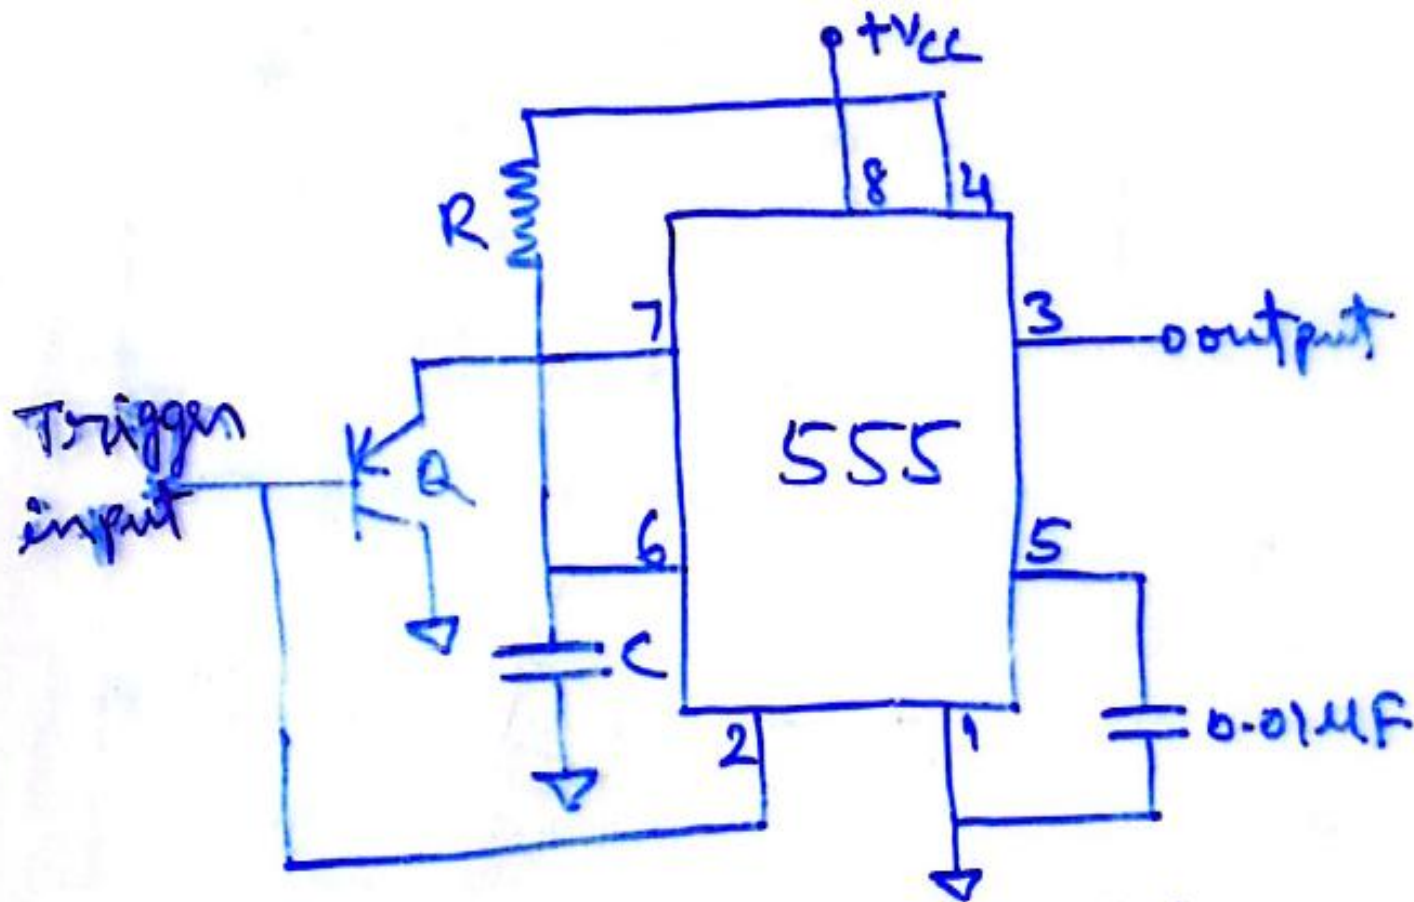

Fig 8-8. A missing pulse detector monostable circ.
- Missing pulse detector circuit using 555 timer is shown in Figure 8.8.